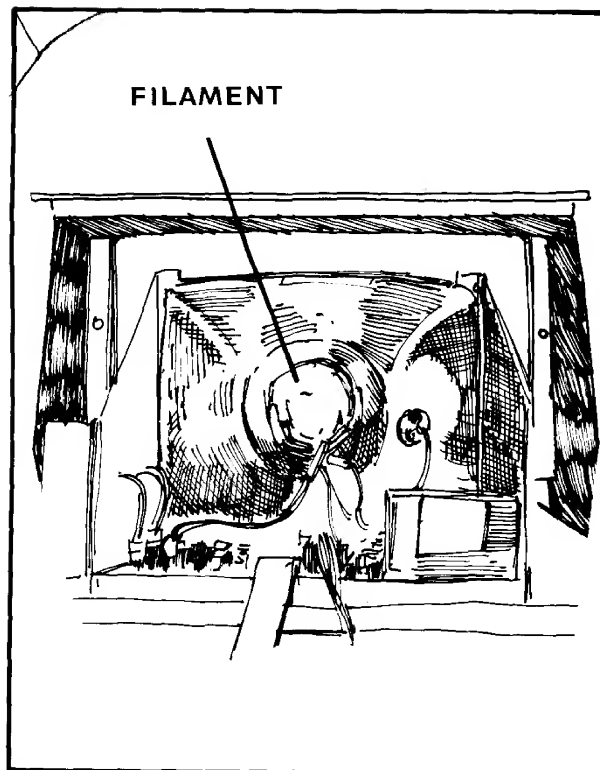

Figure 1-5 CRT Filament Location
- Slowly pull the upper half of the rear access door until the CRT filament (see Figure 1-5) indicates the absence of AC line power.